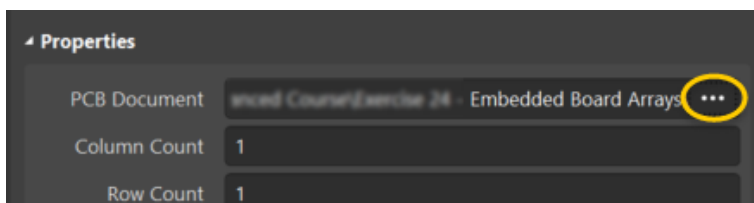

Figure 1. Source PCB for panelizing
- c) In the *Properties* panel, click the **...** button to the right of the *PCB Document* field as shown in Figure 1 below.